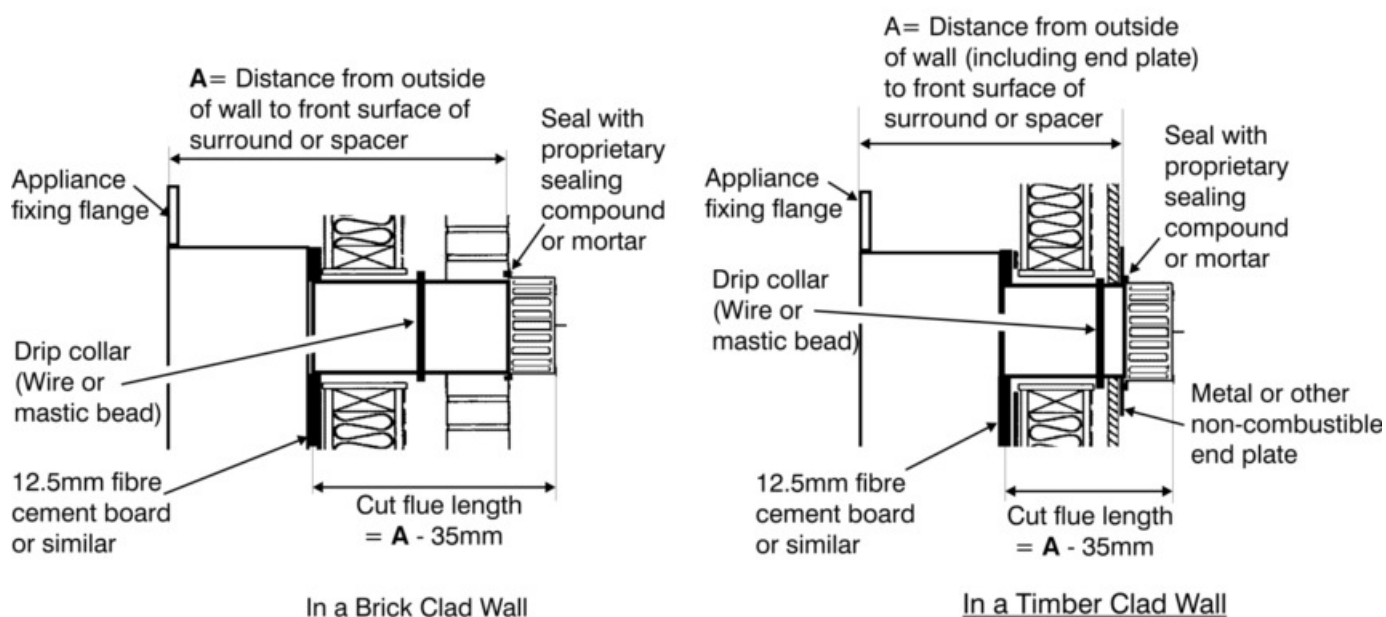

Figure 17. Flue unit installation - Timber framed building.
8.3). Fit a drip collar round the flue positioned so that it will be located in the centre of the wall cavity (See figure 17). The drip collar can be made by wrapping a non-corrosive wire round the flue or moulding a bead of mastic round the flue.
- Timber frame building with combustible outer leaf (e.g. shiplap boarding): A metal or other non-combustible end plate must be fitted on the outside of the wall. The plate must be concentric with the flue and at least 254mm (10in) square or diameter (See figure 17).